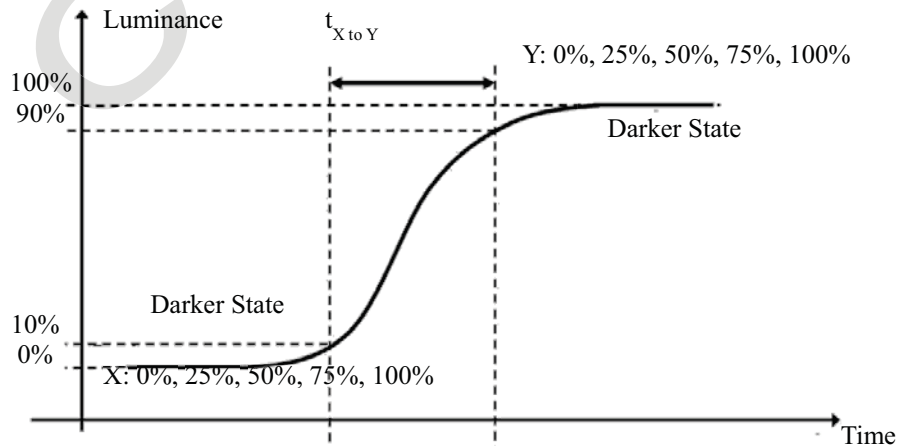

Fig. 6.4 The definition of  $t_{X \text{ to } Y}$
- (3) Response time  $T_L$  is defined as the average transition time in the response time matrix. The table below is the response time matrix in which each element  $t_{X \text{ to } Y}$  is the transition time from luminance ratio X to Y, X and Y are two different luminance ratios among 0%, 25%, 50%, 75%, and 100% luminance. The transition time  $t_{X \text{ to } Y}$  is defined as the time taken from 10% to 90% of the luminance difference between X and Y ( $X < Y$ ) as illustrated in Fig6.4. When  $X > Y$ , the definition of  $t_{X \text{ to } Y}$  is the time taken from 90% to 10% of the luminance difference between X and Y. The response time is optimized on refresh rate  $F_R = 60\text{Hz}$ .